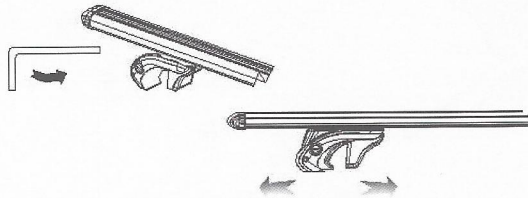

Fig.2
- . Unless different instructions are given by the vehicle manufacturer, the distance between the two racks must be at least 700mm (see fig.2)